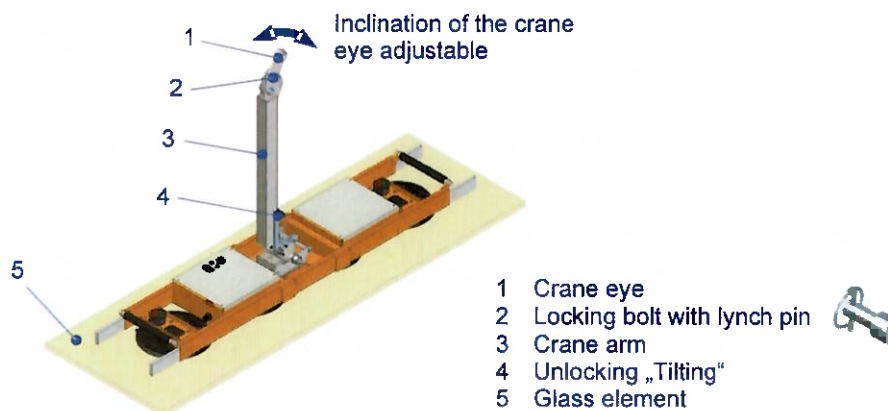

Fig. 8: OKTOPUS® GLASS-Jack GL-LN 600 with horizontal glass element
- ⇒ Remove the unlocking „Tilting“ (see Fig. 8) and move the crane with the OKTOPUS® GLASS-Jack GL-LN 600 towards the elements. Place the OKTOPUS® onto the topmost element.